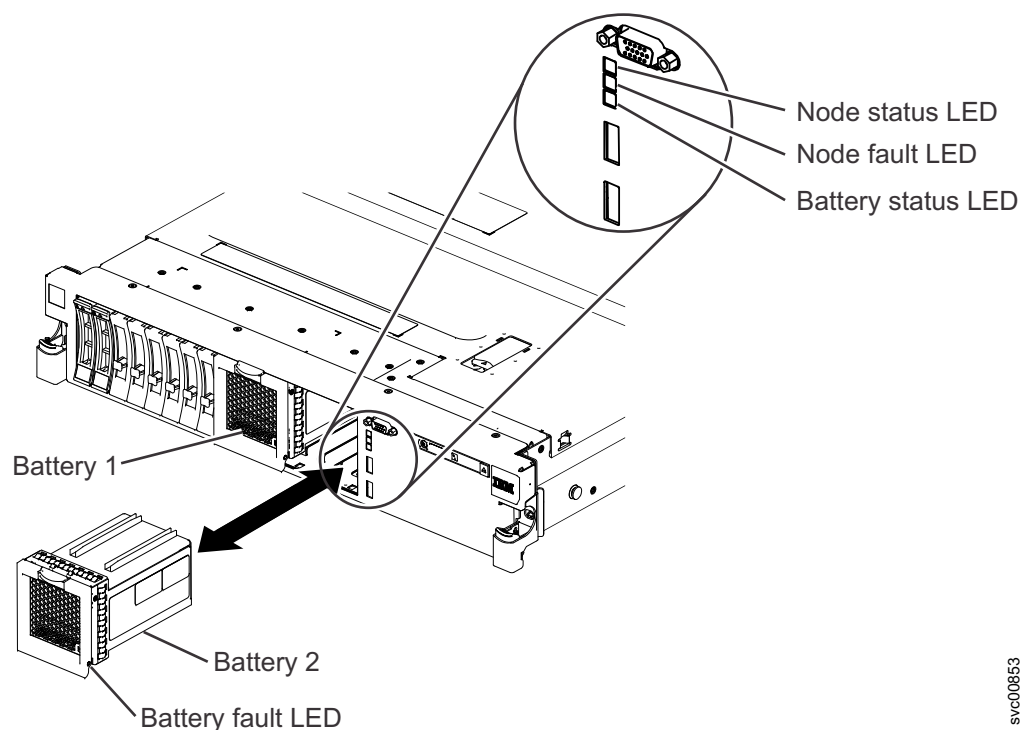

Figure 181. Replacing the battery in the SAN Volume Controller 2145-DH8 node
3. Align the battery assembly with the battery slot guide rails, as shown in Figure 181 on page 217.